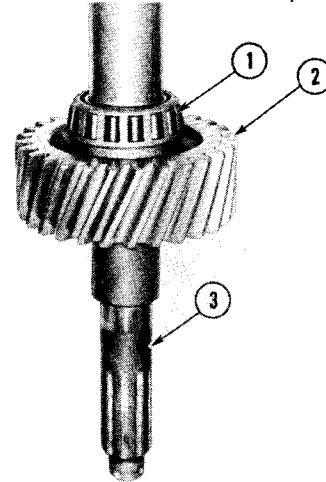

Figure 4-98
Using a suitable press, install driven gear (2, Fig. 4-98) and bearing (1) on driven shaft (3). If bearing (1) has been replaced, replace bearing cup in case cover.